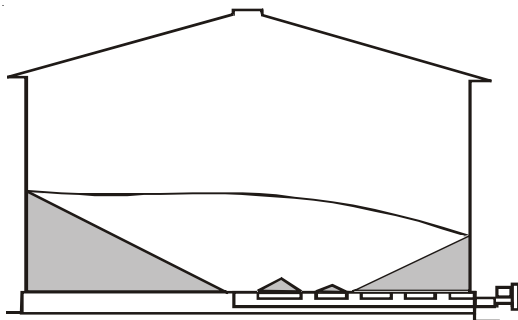

Figure 10
- B. If the bin is equipped with intermediate bin wells, open them after grain has stopped flowing into the center well and before the sweep auger is placed in the bin. Open the intermediate wells near the bin center first. Then when grain flow stops, open the wells near the bin wall. (See Fig. 10 and Fig. 11) The Commercial Sweep Auger can then be installed. Always shut down the unloading equipment and lock out power before entering the bin.